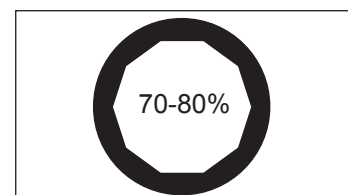

Figure 8
- 3 **Aperture Iris Diaphragm Adjustment:** To achieve the best contrast, resolution, and depth of field, the aperture diaphragm should be set to approximately 70-80% of the field (figure 8) to match the objective's numerical aperture. Adjust the aperture iris diaphragm with the aperture iris diaphragm lever (figure 6a) located at the bottom of the condenser.